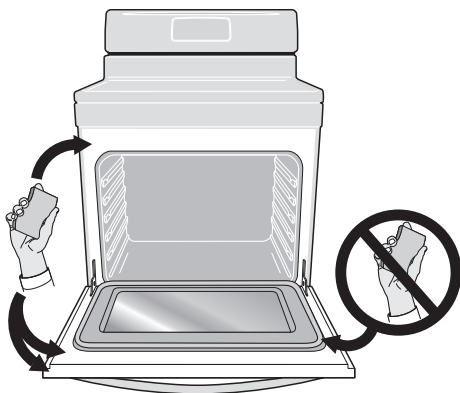

Figure 14: Areas to clean and to avoid
- Do not use oven cleaners or oven protective coatings in or around any part of the oven interior. Clean any soil from the oven frame, the door liner outside the oven door gasket, and the small area at the front center of the oven bottom (See Figure 14). These areas heat sufficiently to burn soil on. Clean using soap and water prior to starting Self Clean.